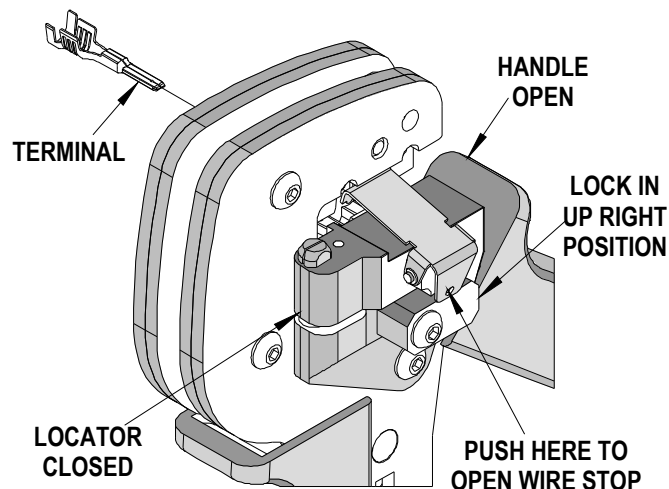

Figure 3
1. To raise the wire stop, press the tab on the wire stop as shown in Figure 3. Insert the proper terminal into the nest opening and release the wire stop to lower it.